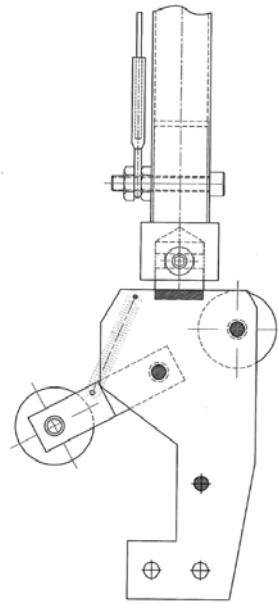

Figure 5 Bottom Wheel Assembly
- 1. Connect the safety cable to the bottom wheel assembly.** (See Figure 5) This is strongly recommended. Not only can it be used to retrieve the assembly in the event that one of the joints breaks loose, but it is also very useful in lowering the assembly into the casing. The alternative is to hold the tube sections with vice-grips at the top of the casing.
The bottom wheel assembly is labeled and has no universal joint, just the swivel. The safety cable has a loop at its bottom end which fits over the long bolt used to hold the bottom wheel assembly to the first tube section. This is shown in Figure 5. The cable eyebolt is trapped between two nuts.
The profile of the borehole is constructed by using the cumulative sum of these lateral offsets starting with the bottom segment, L_1 . For instance, referring to figure 5, the total lateral offset of the top of the upper segment, (which is usually at the surface), from the vertical line drawn through the bottom of the lower segment, (located at the bottom of the borehole), is